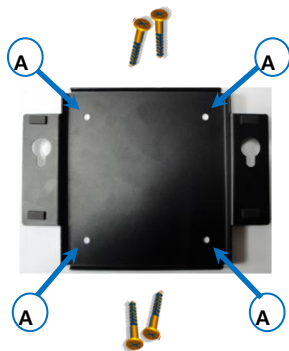

Figure 5-3. Drill mounting screws to the holes
**Step 5.** Put the wall-mount bracket again on the wall. As shown from the Figure 5-3, drill and tighten four mounting screws into the plastic anchor bolts through the bracket holes while putting it on the wall.